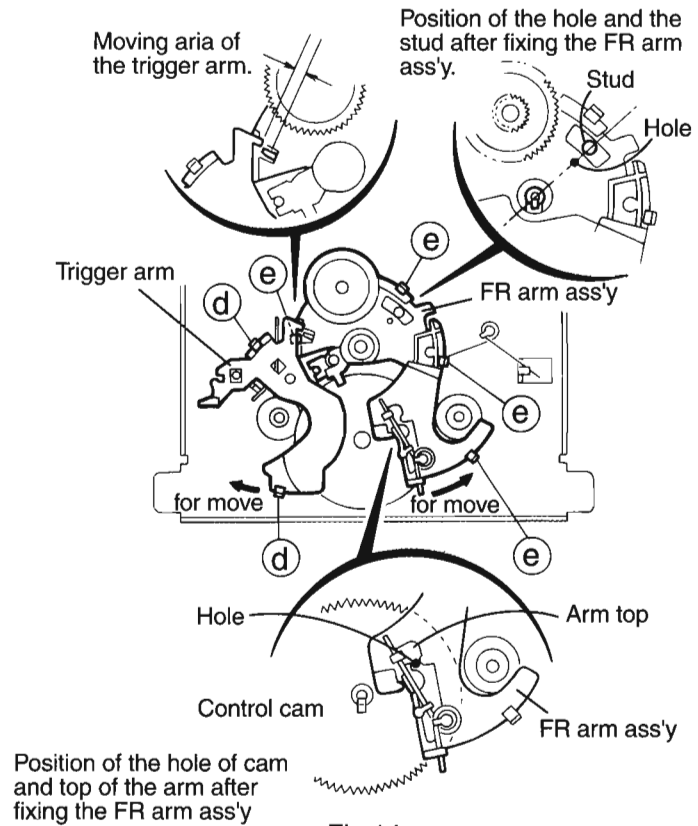

Fig.14
- the cam hole and arm edge shown in the figure 14.
■ Control cam removal (See Fig.14~17)